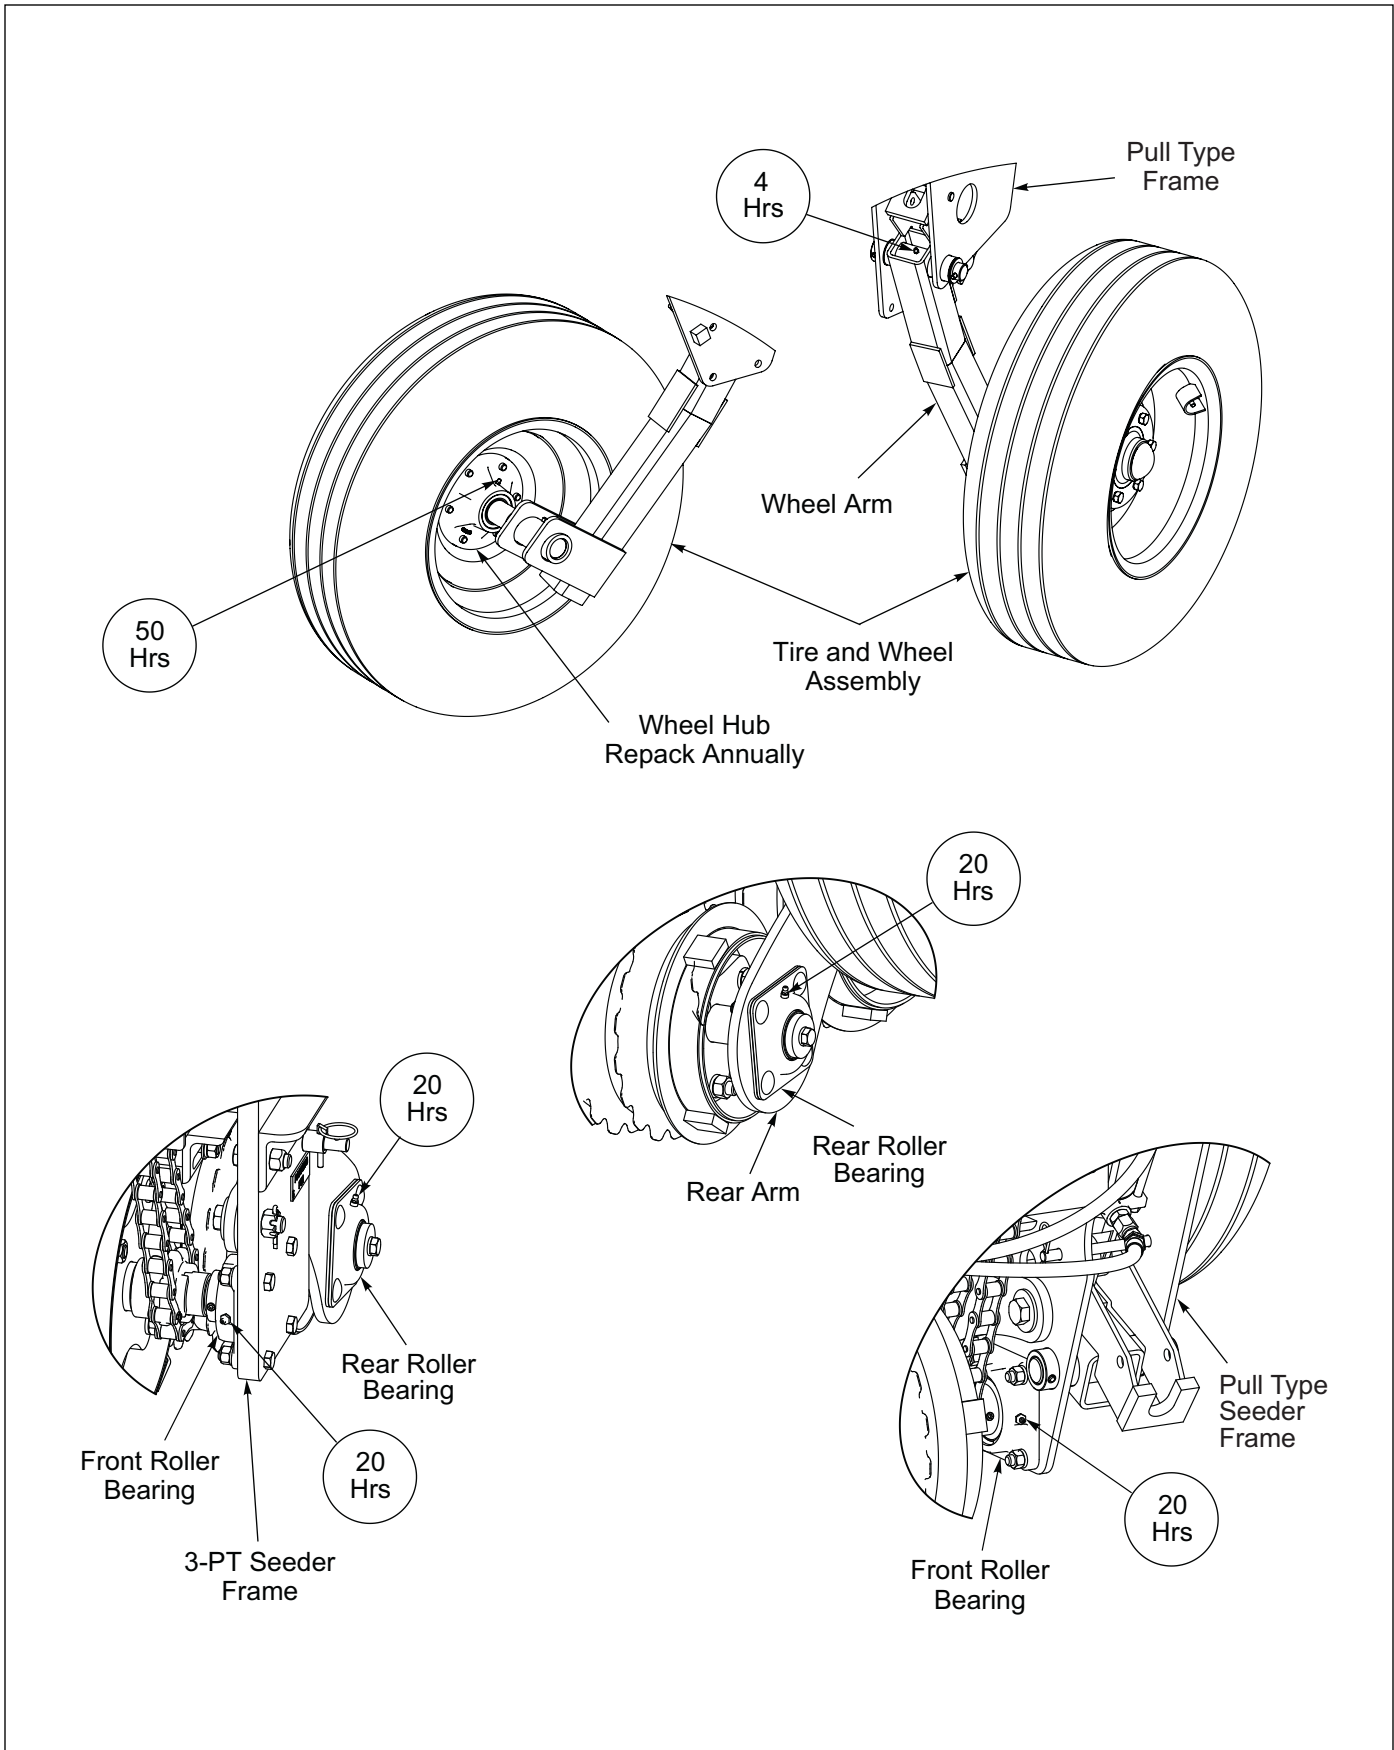

Figure 4-2: Lubrication Intervals
12. Grease Wheels Hubs every 50 hrs. **Figure 4-2.**
- All Seeders have Greaseable Bearings on the ends of the Front and Rear Rollers and should be greased every 20 hrs. **Figure 4-2.**